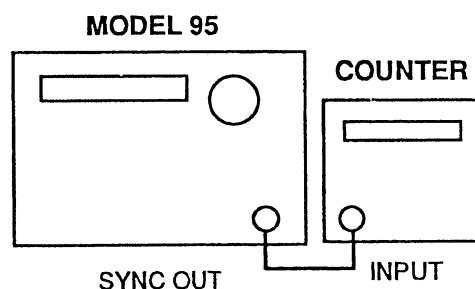

Figure 4-2. Frequency Reference Setup
2. Connect the test equipment as shown in figure 4-2.